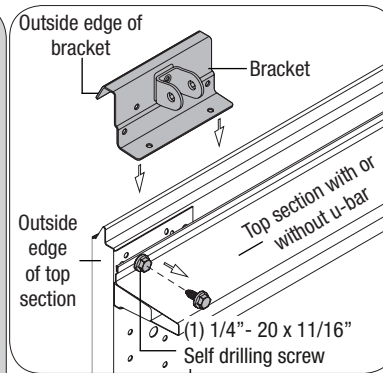

FIG. 1.1
NOTE: If you have a top section with a u-bar, you must remove (1) 1/4" - 20 x 11/16" self drilling screw from the top portion of the u-bar, as shown in FIG. 1.1.
Starting on left hand side of top section, locate the outside edge of the top section and seat the outside edge of bracket on male part of the top section, as shown in FIG. 1.1 and 1.2.